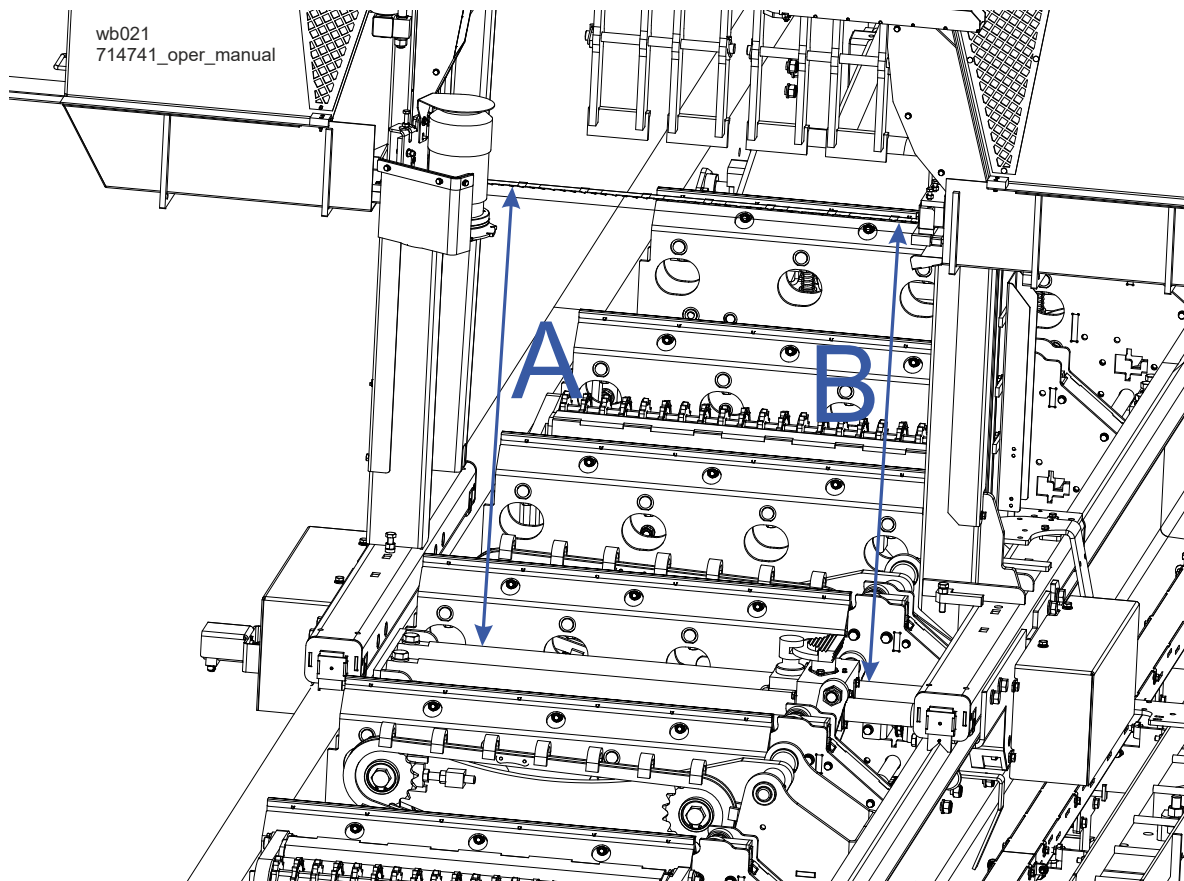

FIG. 5-9
**See Figure 5-9** Make sure the blade guide blocks do not touch the blade. Position the saw head over the log clamp. Measure the distance from the rod of the blade clamp near the left (A) and right (B) blade guides. The measurements should be the same. If not, it is necessary to adjust the saw head tilt.